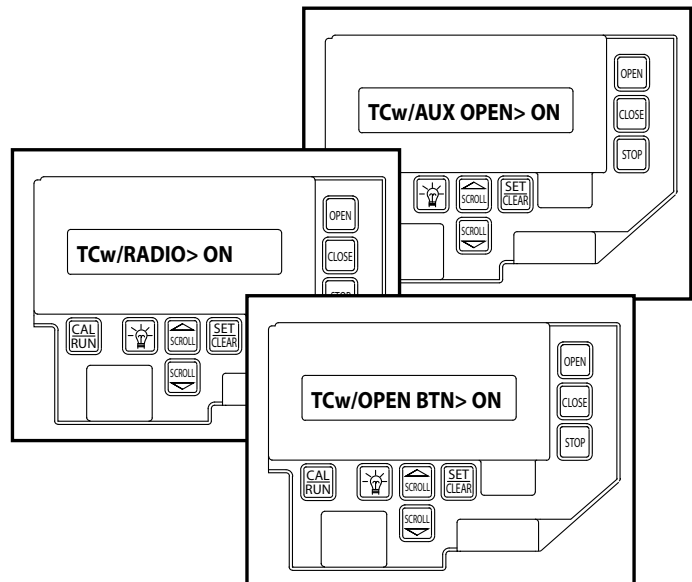

Fig. 5B Select Mode
5. Press the SCROLL DN key to select the inputs that will initiate a Timer Close operation. (Fig. 5B). *TIMER CLOSE W/OPEN BUTTON, TIMER CLOSE W/RADIO or TIMER CLOSE W/AUX OPEN.*